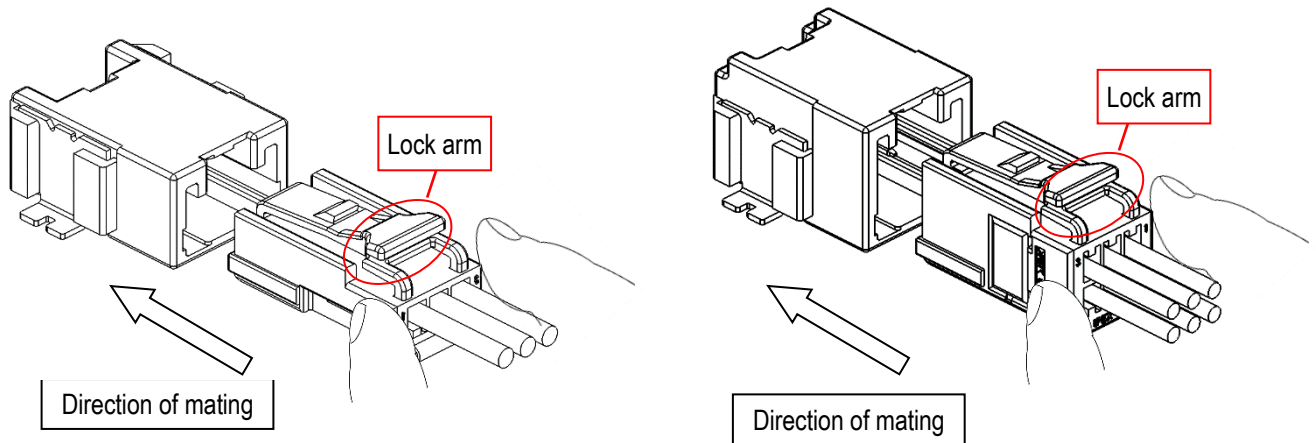

Fig50. Direction of mating
① Push the female connector that has been installed the secondary lock part and the retainer in the direction of mating until makes an audible click(see Fig.50).